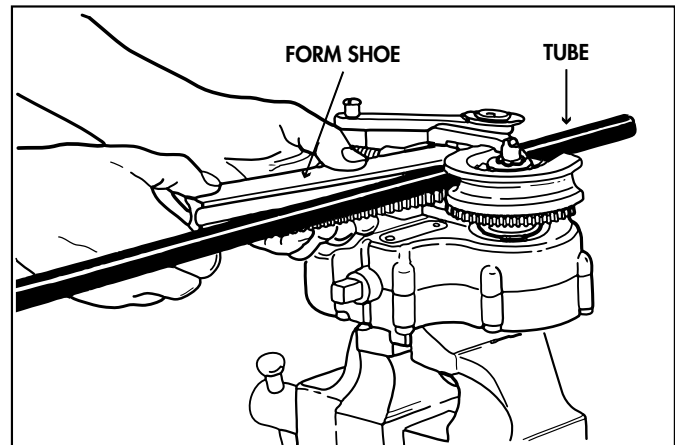

Figure 8. Sliding the Form Shoe and Rack Into Position
g. While holding the rack in engagement with the form shoe, slide the form shoe into place alongside the tube which is clamped into the form block. The end of the form shoe should be inserted far enough to almost touch the clamp yoke. (See figure 8.) If the form shoe slide block is in too far to permit insertion of the form shoe, retract the feed screw until the form shoe can be slipped into place.